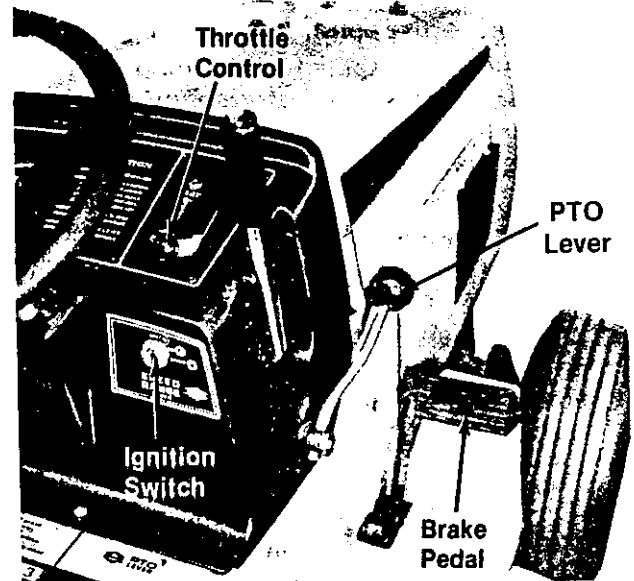

FIGURE 3.
Throttle Control—The throttle control is located on the right side of the dashboard and is used to regulate the engine speed. The engine should be operated from ¾ to full throttle (fast) when operating any equipment that uses the tractor engine as a source of power such as the mowing deck, snow thrower or rotary tiller. See figure 3.
Ignition Switch—The ignition switch is located on the right side of the dashboard. Turn the key to the START position to start the engine. When the engine is running leave the key in the ON position. To stop the engine, turn the key to the OFF position. See figure 3.
Brake Pedal—The brake pedal is located on the right side of the frame. Depressing the brake pedal will engage the disc brake located on the transaxle. The clutch pedal **MUST** be depressed as well as the brake pedal to stop the tractor. See figure 3.
Power Take Off (PTO)—The PTO lever is located on the right side of the tractor. Moving the lever forward engages the PTO and moving it backward disengages it. Figure 3 shows the PTO lever in the engaged position.
- A. Disengage the PTO lever. See figure 3.
- C. Set the throttle control in the fast position. See figure 3.
- E. Turn the ignition key clockwise to the start position. See figure 3.